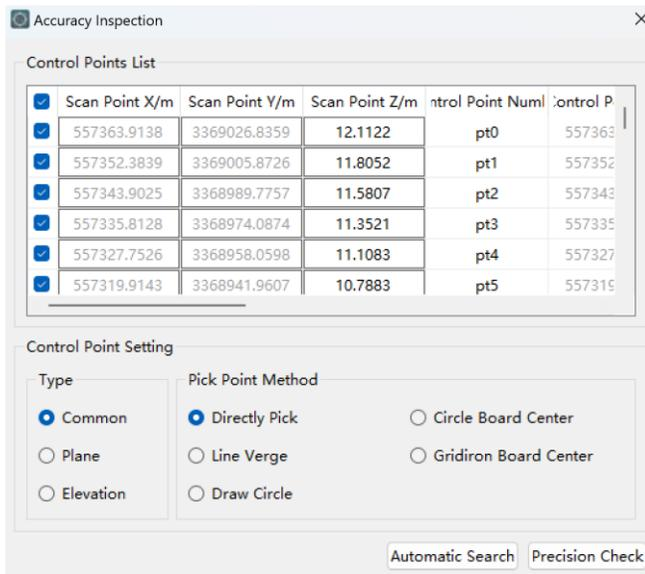

Figure 3-77 Accuracy Inspection interface after auto search
- (1) Clicking Auto Search, the program will automatically detect the coordinate position of the scanning point corresponding to the control point (Figure 3-77), the other operations are consistent with Quick Point Selection.